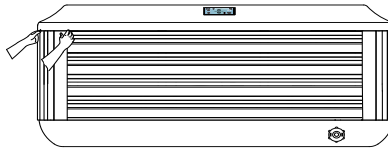
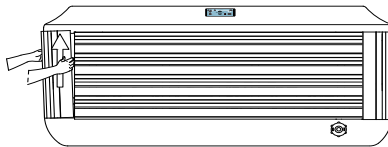

Figure 1
Figure 2
- Grab one of the corner panels, from the top, where it touches the shell. Then gently pull the panel forward to unsnap it from the holding clips, Figure 1. Tilt the panel forward and then lift to remove, Figure 2. Place the panel in a safe location to prevent from damaging it. Repeat the steps to remove the other corner panel.